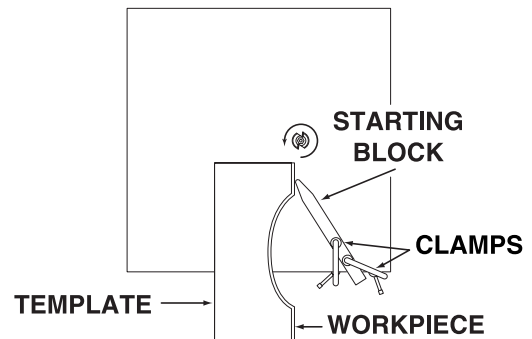

Figure 2. Start block for template cutting.
3. The fence and miter must be removed when using a template. A starting pin or block must be installed as shown in Figure 2.